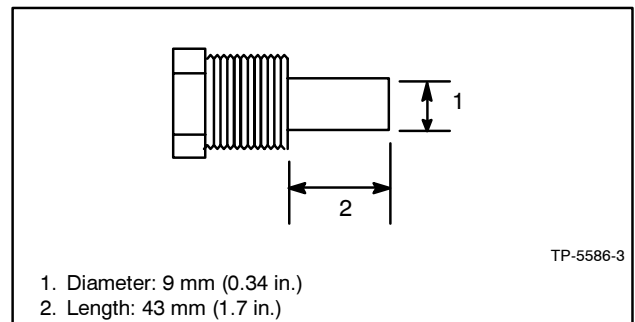

Figure 5-10 Anticorrosion Zinc Anode (Plug)
2. Remove the corrosion on the zinc anode. Replace the anode when the percent of the zinc remaining is less than 50% of the length and diameter shown in Figure 5-10.